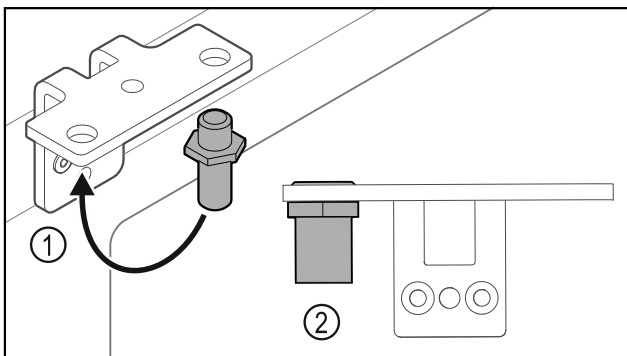

Fig. 38
- Put the pin back into the hinge Fig. 38 (1).
- Tighten the pin Fig. 38 (2) to a **torque of 12 Nm**.